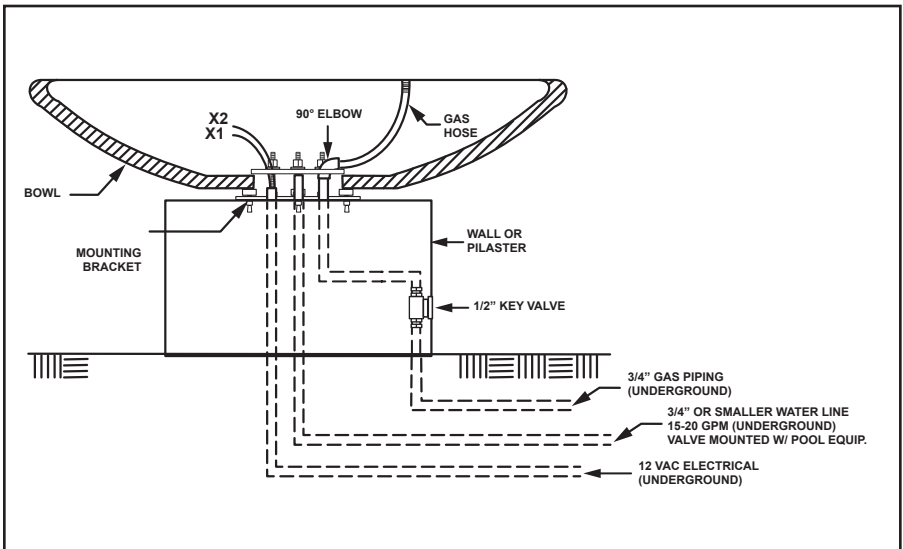

Figure 7. Mounting
1. Attach the mounting bracket to the surface/floor. See Figure 7.
10. Install the mounting bracket as shown in Figure 7.
- b. Install the clamp ring onto the three (3) securing bolts and fasten to the bottom of the bowl using a nut and washer on each securing bolt.
12. Install 90° pipe elbow and gas hose at the gas connection as shown in Figure 7.
Important: The mounting bracket must be installed for proper cooling of the burner assembly. Warranty may be voided if the mounting bracket is not installed. Do not kink or make sharp radius on the metal gas hose. Do not come straight up with the gas hose. As shown in Figure 7, a 90° gas pipe elbow must be installed on the gas line for proper installation of the gas hose. The product warranty may be voided if it is not installed with an elbow as shown in Figure 7.
1. The height of the flame can be adjusted at each burner by opening or closing the ½" gas valve or keyed valve as shown in Figure 7.